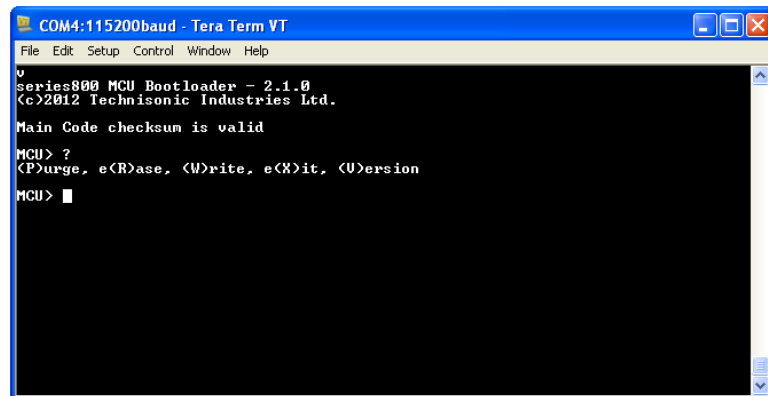

FIGURE 12: Bootload Command Menu
- g) The YMODEM Send Dialog will appear. See Figure 12 and 13
- f) When the bootloader is invoked, the radio will send the command menu to the terminal on the PC. See Figure 12.